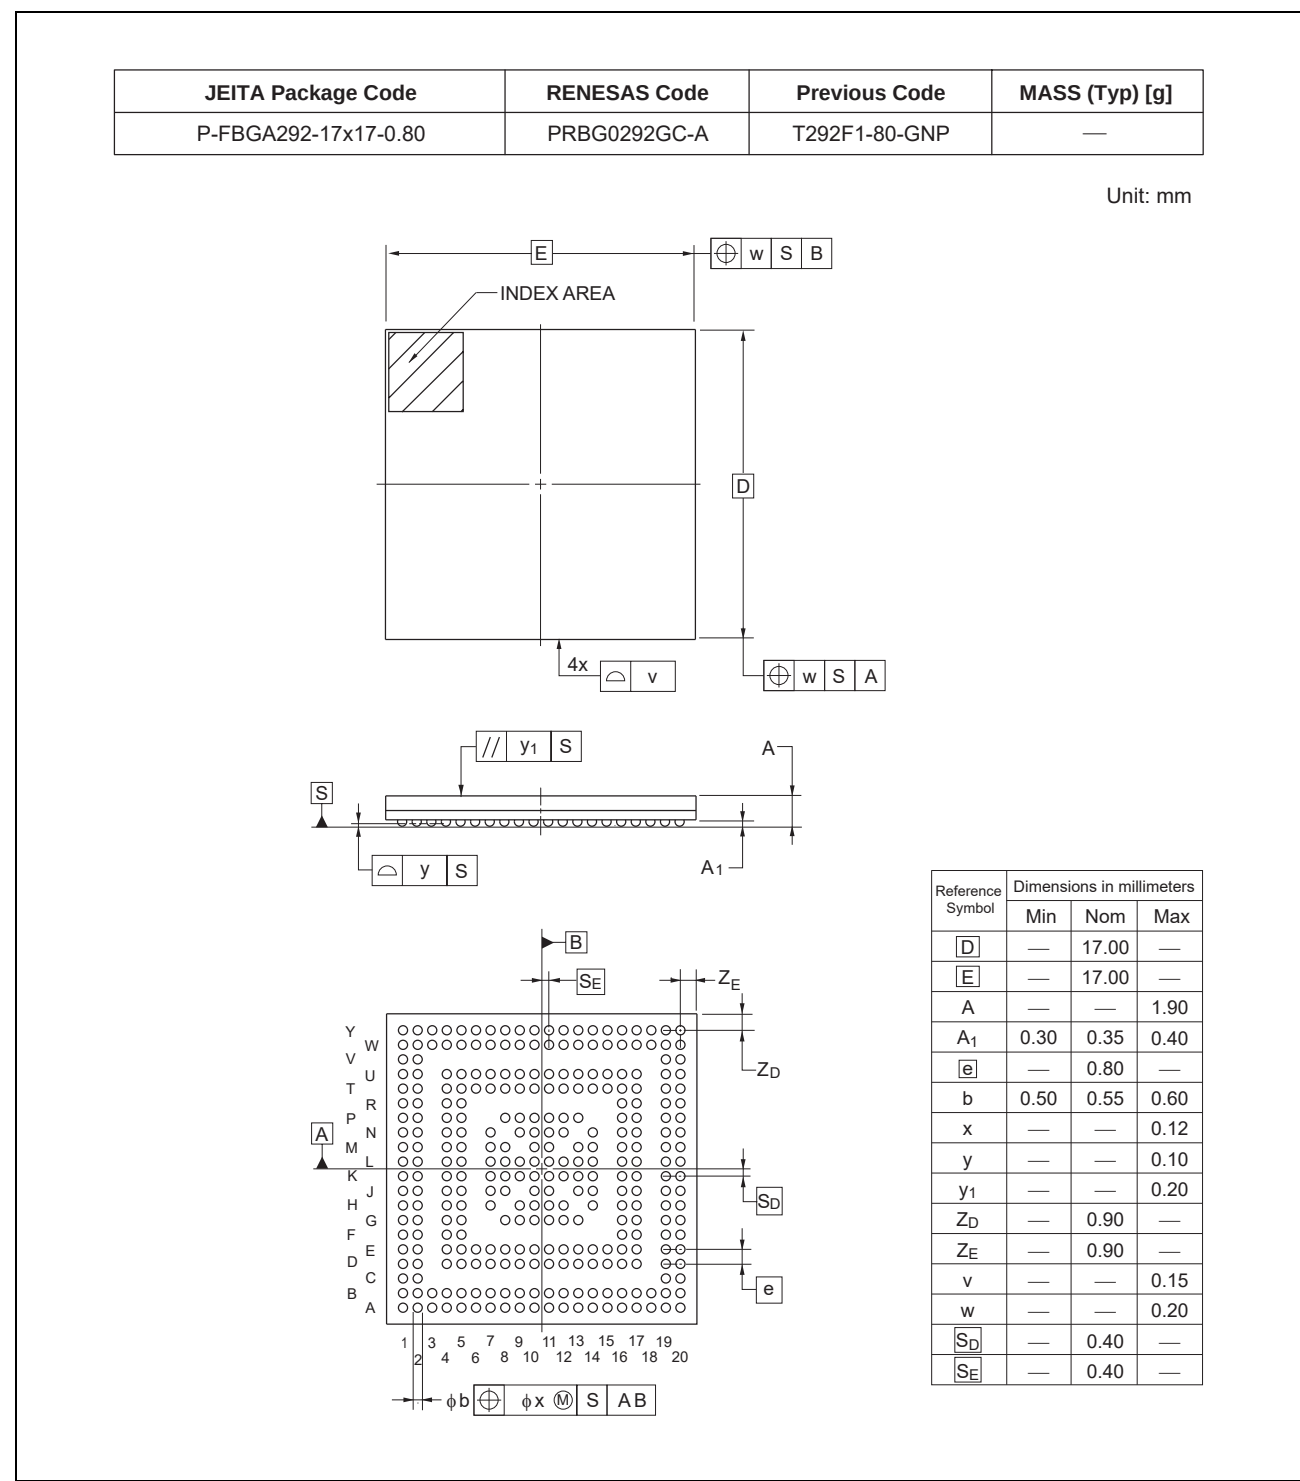

Figure 4.4 FBGA (292pin) outline
- Figure 4.4 shows FBGA (292pin) outline.